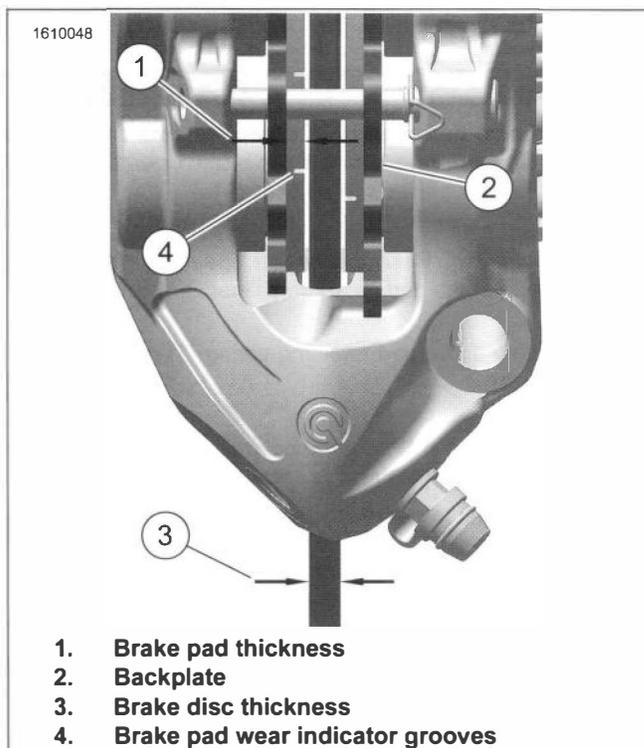

Figure 2-8. Brake Thickness
2. See Figure 2-8. Measure the thickness of the brake pad friction material.